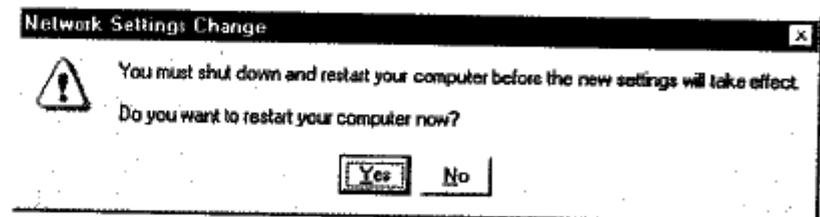

Figure 3-31
- Click "Apply" and then "OK" to bring out the "Network Settings Change" window as shown in Figure 3-31.